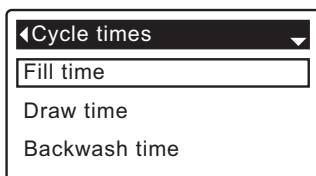

FIG. 52
5. Press the SELECT (O) button to display the Cycle times menu (See Figure 52).
9. Press the SELECT (O) button. The display will go back to the Cycle times menu (Figure 52).